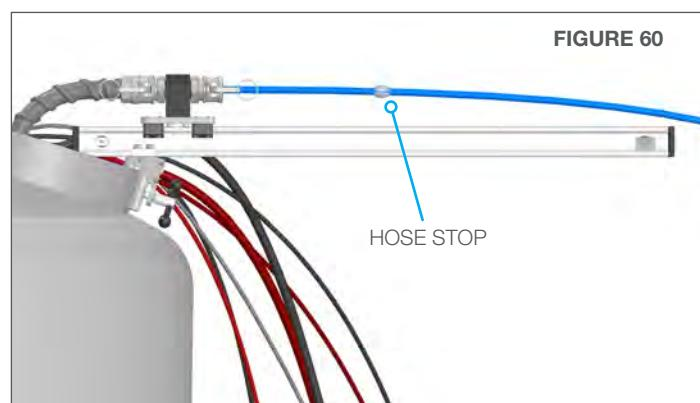

FIGURE 60
1. Loosely install the Hose Stop on the hose. (Figure 60)
4. Move the Hose Stop into the approximate position shown in (Figure 60), and tighten it onto the Hose.